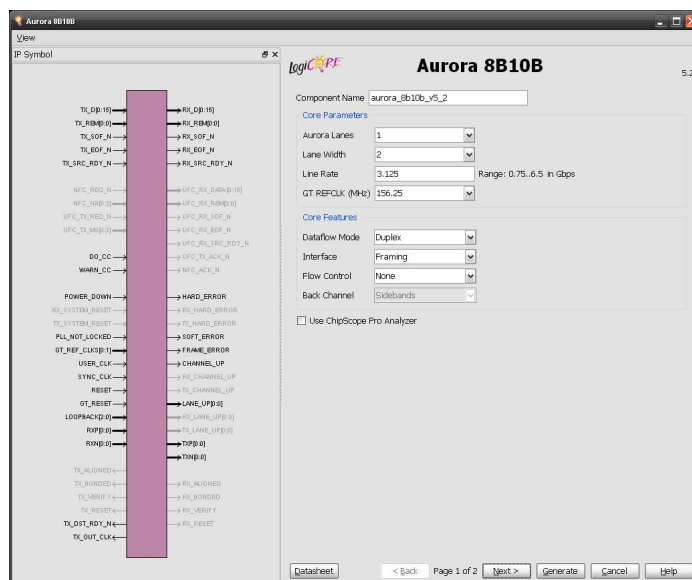

Figure 9-1: CORE Generator Aurora 8B/10B Customization Screen
7. In the Component Name field (Figure 9-1), enter a name for the core instance. This example uses the name **aurora_8b10b_v5_2**.